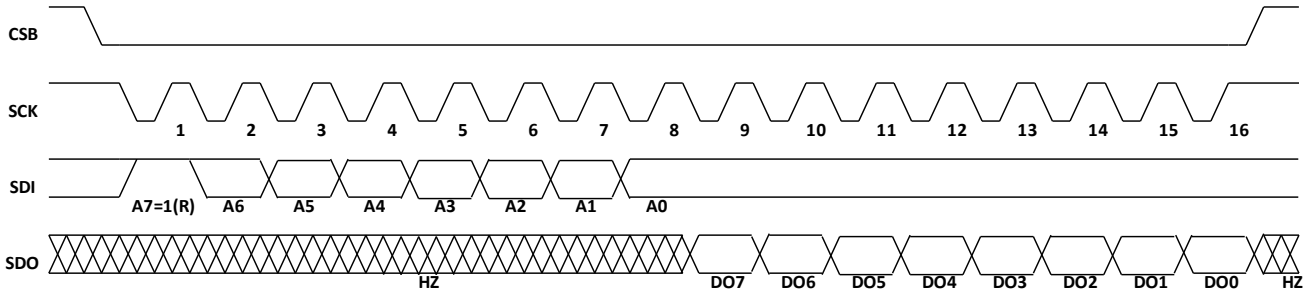

Figure 9. SPI 4-Wire (WIRE=0) Protocol – Read Access (register address MSB bit A7=1)
Figure 9 illustrates 4-wire (WIRE=0) SPI bus read access communication. The SDO line is at high impedance state (HZ) until it outputs the MSB data bit (DO7) at falling edge of the eight SCK clock pulse.